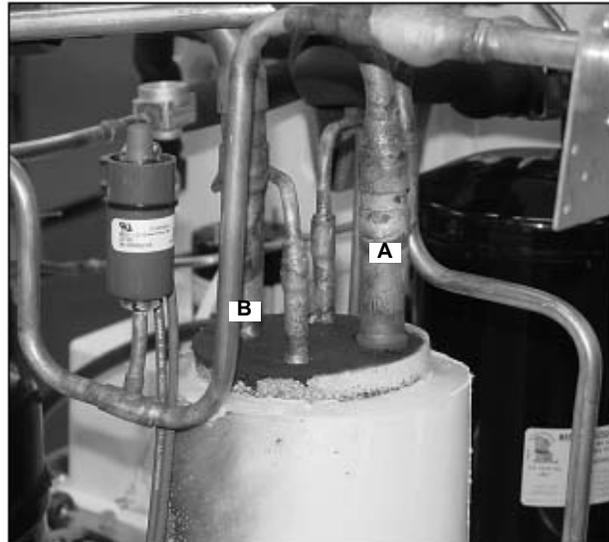

Figure 37.
36. Protecting the Armaflex insulation, as well as the foam insulation on the accumulator, braze the suction inlet (A) and outlet (B) (Figure 37).